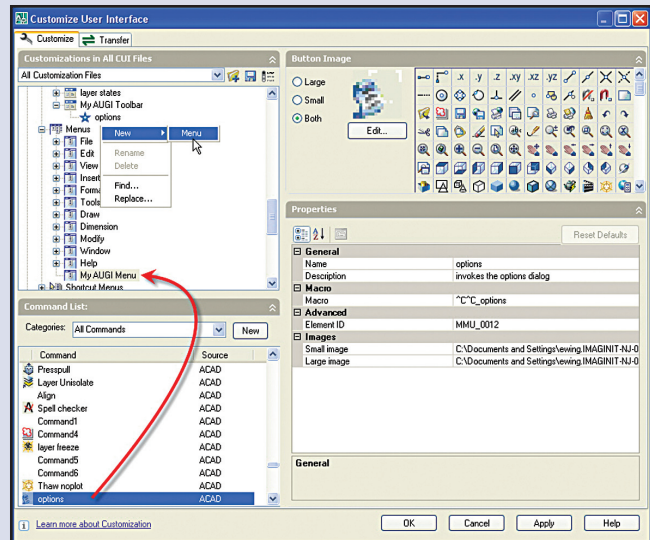

Figure 7
- Close the CUI. You now have a new drop-down menu complete with an icon. *See Figure 7*